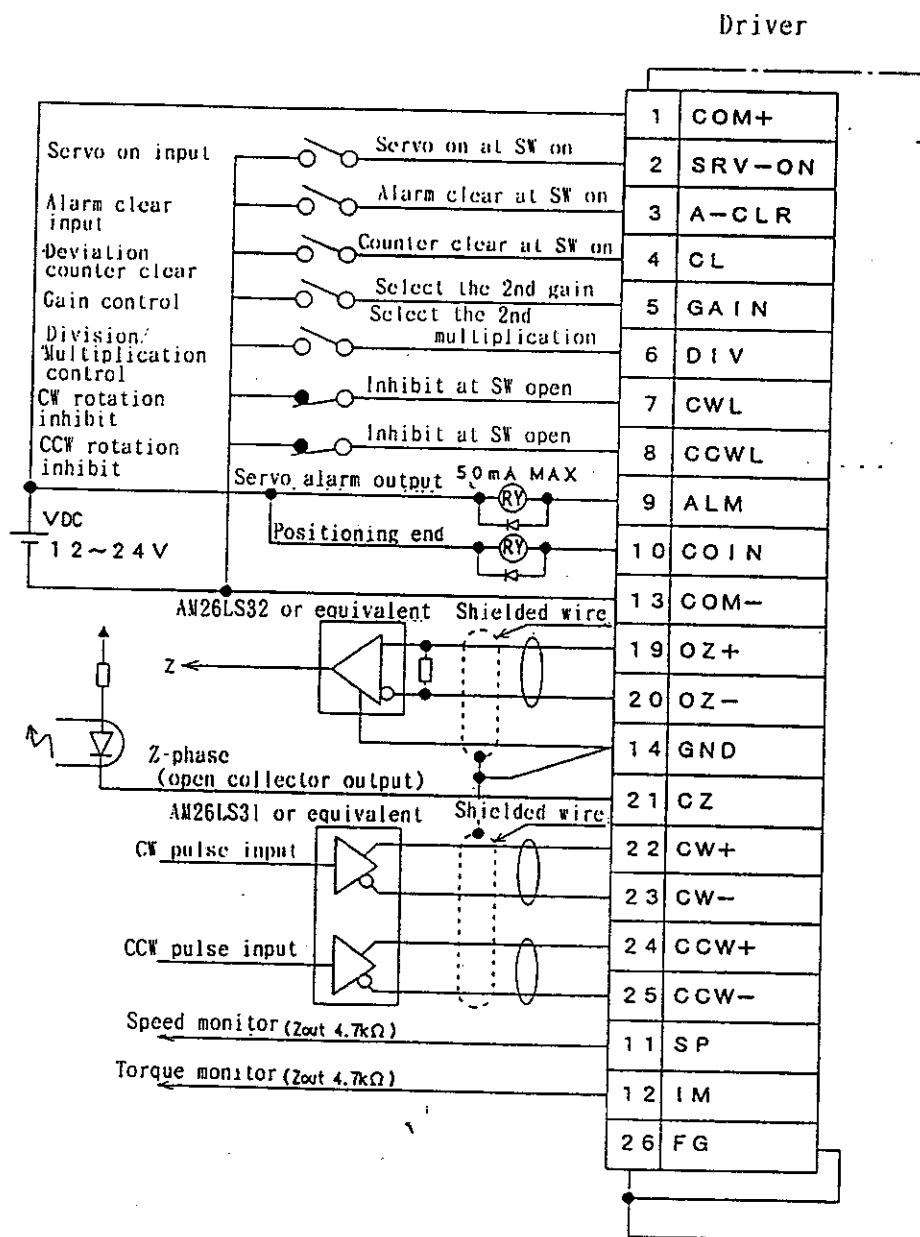

Fig. 4-2 Example of wiring to connector CN 1/F
- (1) Please make wiring per Fig. 4-2.
- (2) Please prepare a power supply for a control signal with DC12-24V, used for external control connected between COM + and COM -.
- (3) Please shorten the wiring of the driver and other equipment as much as possible (3 m or shorter).
- (4) Please separate this wiring from the power lines (R, S, T, U, V, W, E), as much as possible (30 cm or more).
- (6) If you directly drive a relay with the control output terminals, please install a diode in parallel with the relay as Fig. 4-2 shows. If you do not install a diode, or install it in reverse direction, this may cause damage to the driver.